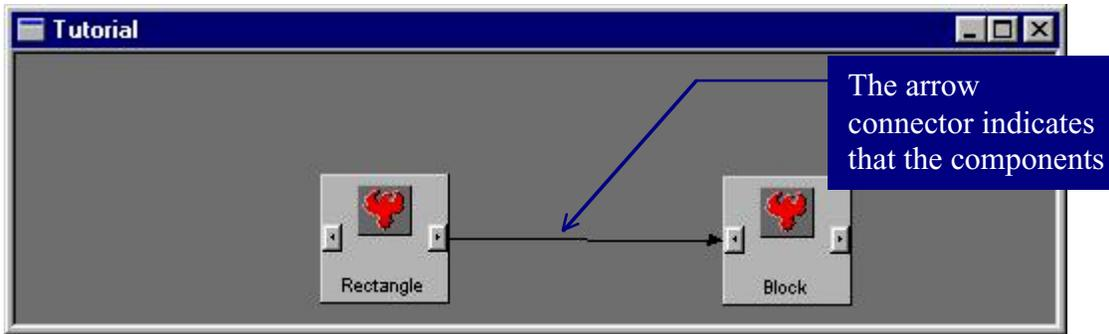

Figure 22. The Assembly View displaying two linked components
6. Switch to the **Assembly View**; this view will show the components' icons as linked. The view is shown in Fig. 22.